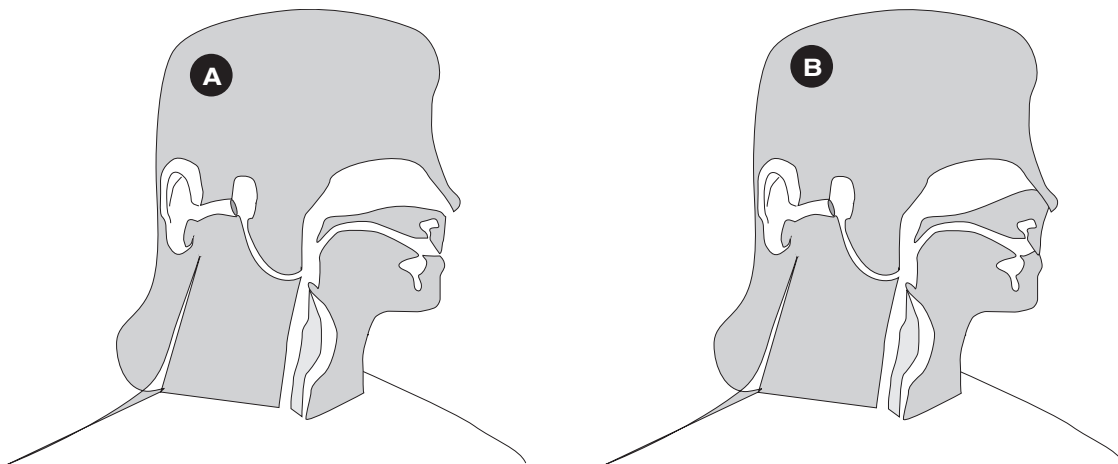

Figure 159.3 How to equalise your ear. Students may make one copy of this page so that they can attach their answers before handing in for marking.
- Mark in the following in Figures 159.3.A and 159.3.B: